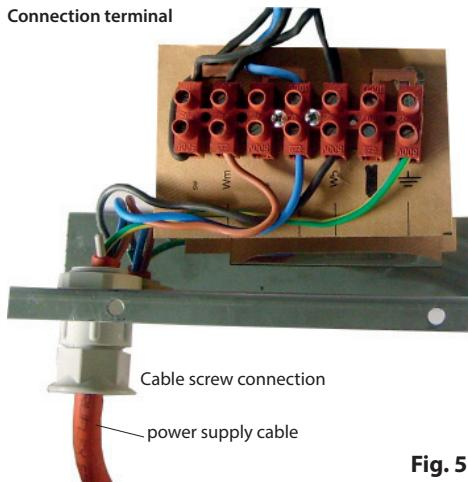

Fig. 5
5. The terminals for connection of the vaporizer are placed on the left side of the heater. Make the cable connections to the vaporizer as described above (see fig. 5).